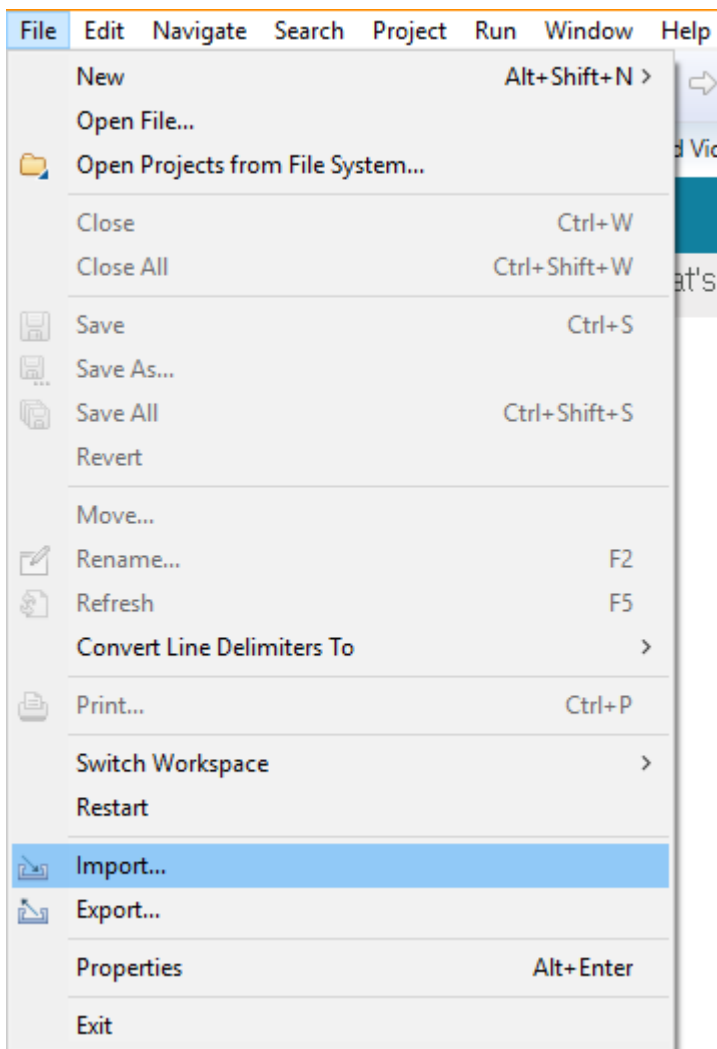

Figure 3 Importing an existing configuration database
2. **Click File > Import...** as shown in Figure 3 Importing an existing configuration databaseError! Reference source not found.